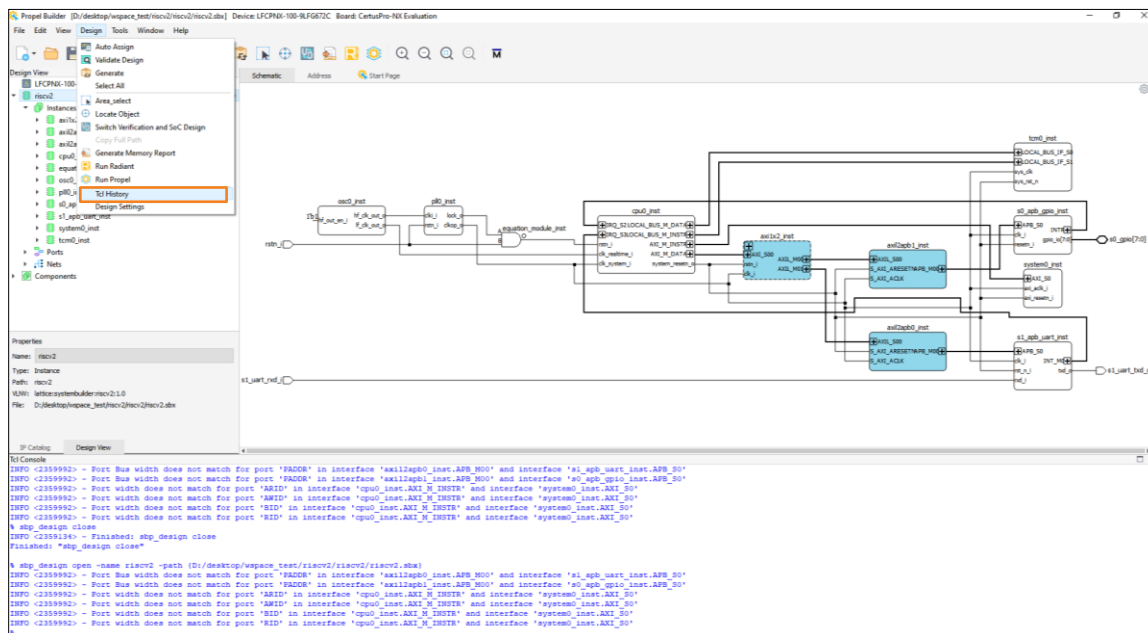
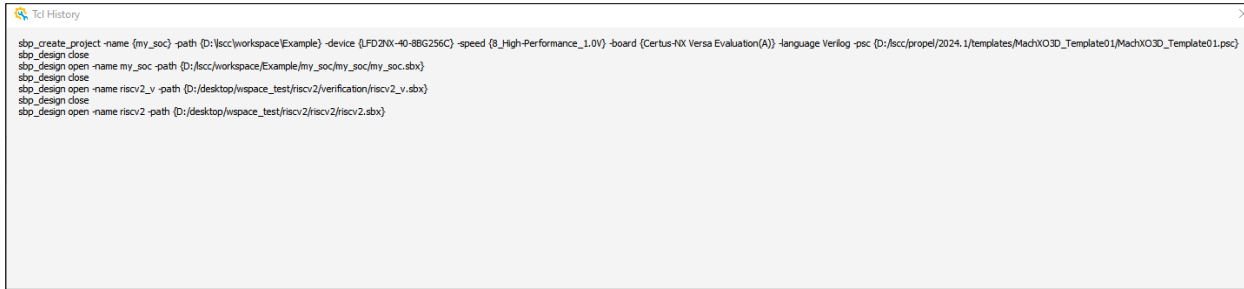

Figure 2.104. Open TCL History
Figure 2.105. TCL History Window
- d. TCL history can be viewed in TCL History window (Figure 2.105) by choosing **Design > TCL History** (Figure 2.104).